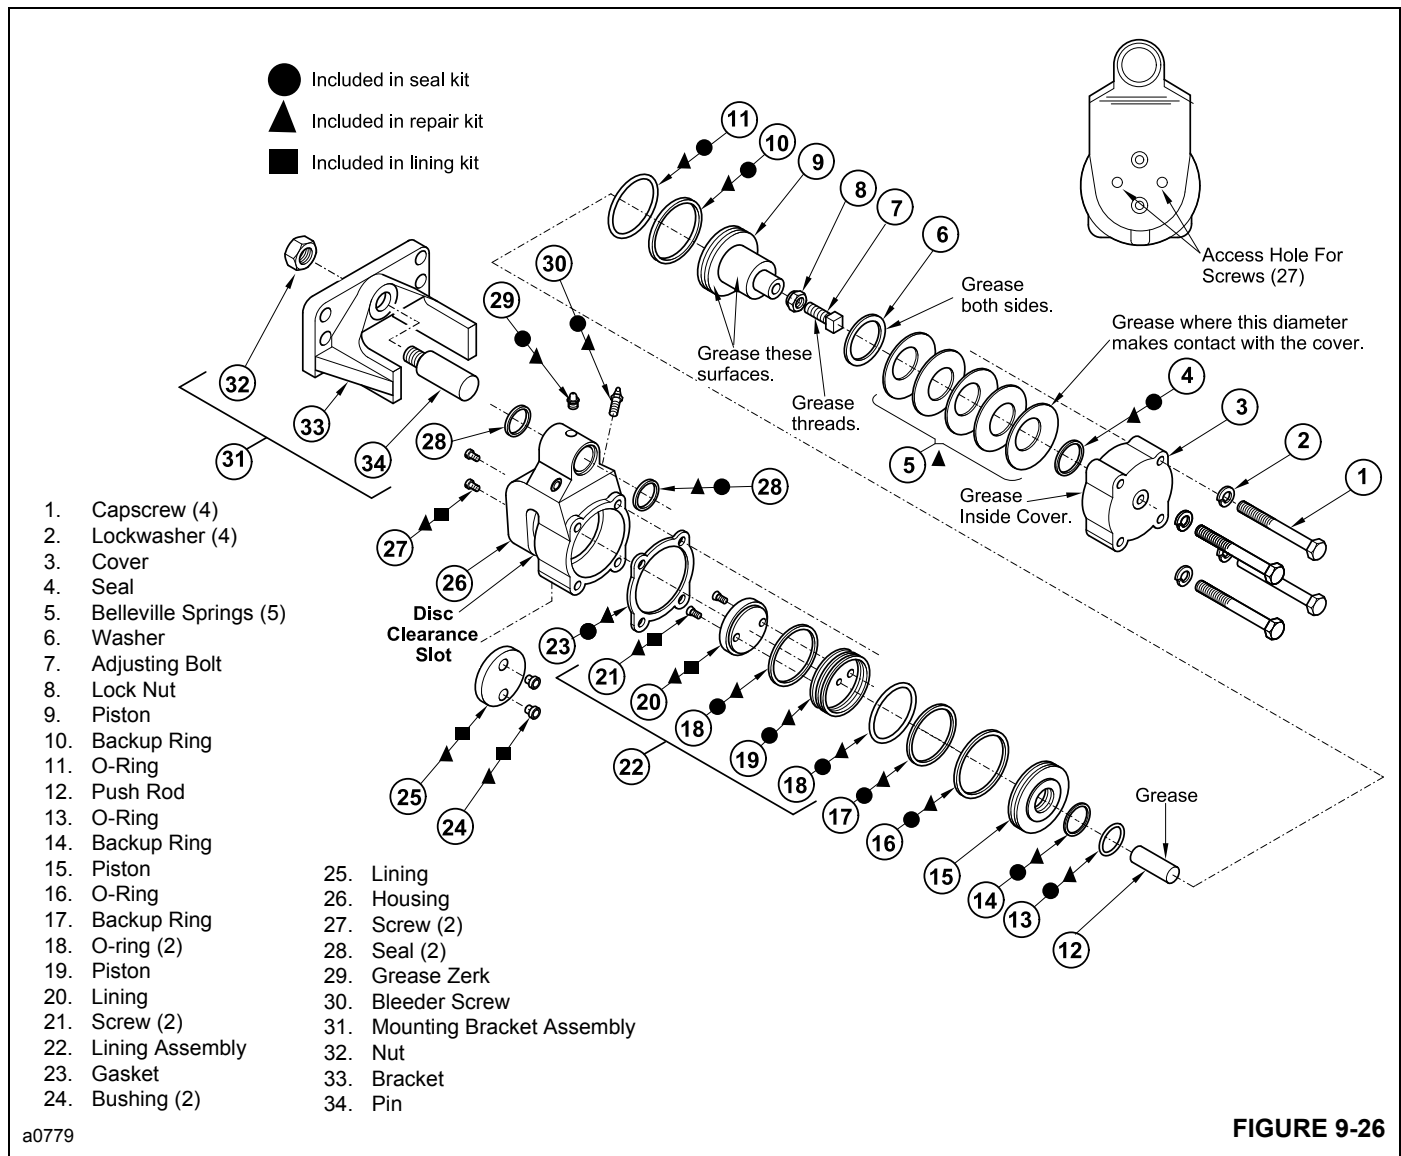

FIGURE 9-26
The lining kit is indicated in Figure 9-26 with a  symbol.
4. Loosen lock nut **8** Figure 9-26 and back off adjusting bolt **7**.
The parking brake has a repair kit available. It includes all the parts necessary to rebuild the brake. These parts are indicated in Figure 9-26 with a ▲ symbol.
4. Loosen lock nut 8 Figure 9-26 and back off adjusting bolt 7.
11. Remove capscrews **1** Figure 9-26, lockwashers **2**, cover **3** and gasket **23**. Using a thin blade screw driver, remove seal **4** from cover **3**.
**NOTE:** Coat the surfaces indicated in Figure 9-26 with a Lithium Base, E.P. No. 2 bearing grease or equivalent.
19. Install new lining **25** Figure 9-26 in housing **26** using new bushings **24** and pan head screws **27**. Tighten the screws to 2.5 - 3.3 Nm (22-28 lb-in).
The parking brake has a seal kit available. It includes all the parts necessary to replace all the seals in the brake. These parts are indicated in Figure 9-26 with a ● symbol.
10. Remove capscrews **1** Figure 9-26, lockwashers **2**, cover **3** and gasket **23**. Using a thin blade, remove seal **4** from cover **3**.
**NOTE:** Coat the surfaces noted in Figure 9-26 with a Lithium Base, E.P. No. 2 bearing grease or equivalent.